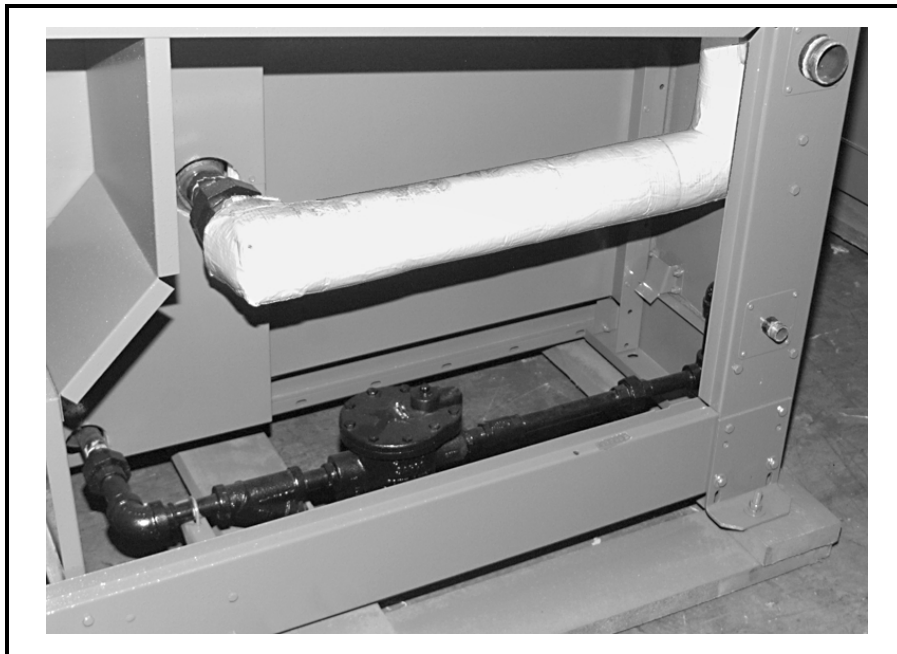

FIGURE 1 (MSSM0102BE)
1. Each Dryer has a strainer and steam trap (FIGURE 1), to handle steam that condenses in the coil as it heats the passing air which dries the goods.